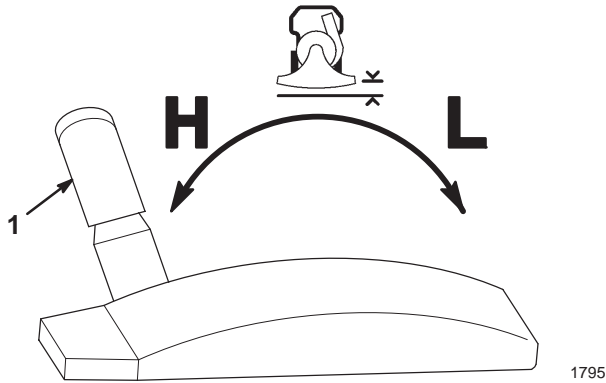

Figure 12
3. Move the height adjustment control forward to lower the intake housing; move it to the rear to raise the housing (Fig 12).